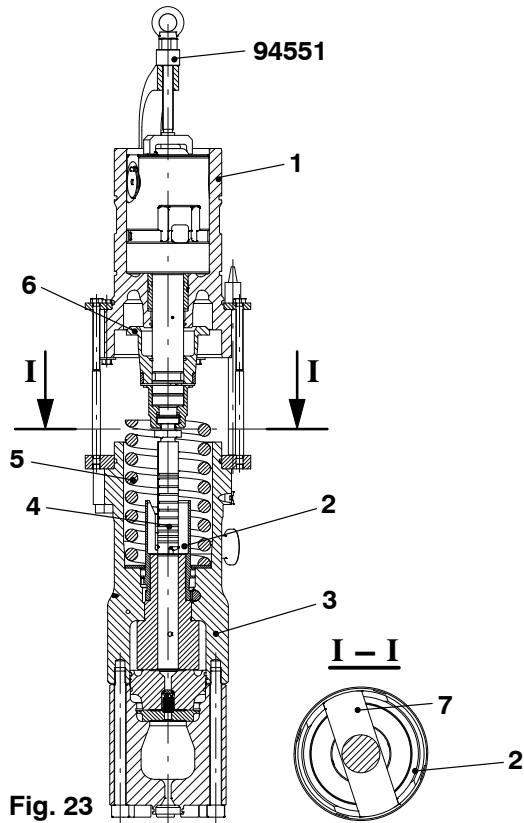

Fig. 23
- 6) Lower the bottom housing (1, Fig. 23) on to the top housing (7) until the spring carrier (6) above the spring (5).
- 7) Align the tabs (7) on the pump plunger (4) with the holes in the regulating sleeve (2).
- 8) Continue to lower the bottom housing (1) until the spring carrier (6) touches the spring (5).